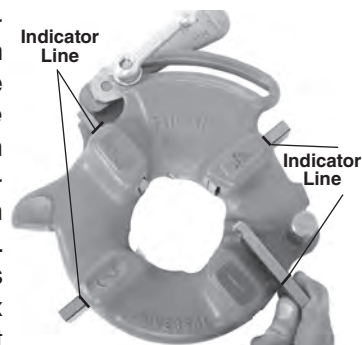

Figure 11 – Inserting Dies
4. Lift tongue of washer out of slot in size bar. Move washer to end of slot (Figure 11).
edge up until the indicator line is flush with the edge of the die head (see Figure 11). Numbers on the dies must correspond with those on the die head slots. Always change dies as sets – do not mix dies from different sets.